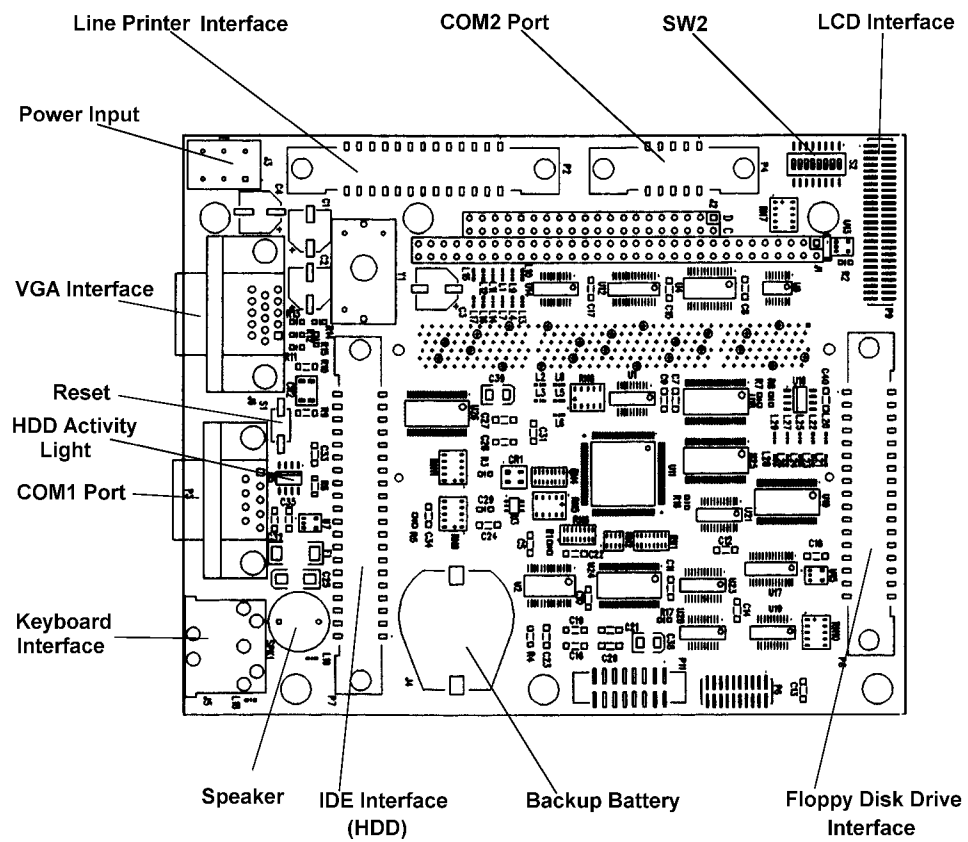

Figure 13 - DSM Processor Board Top View
Figures 13 and 14 show the layout of the processor board with all of the major blocks and connection points identified,
- S1 is the processor reset switch. Refer to figure 13 for the location of this switch.
- S2 is an eight position DIP switch. It is used to set the IRQ and the base address of the A/D Interface. Refer to figure 13 for the location of this switch. Tables 1, 2, and 3 document the switch settings.